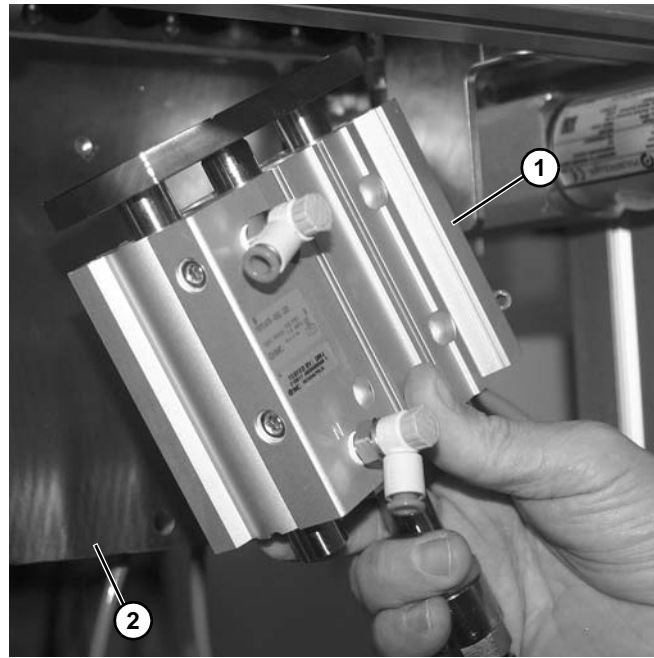

Figure 103
9. Remove cylinder (**Figure 103, item 1**) from mounting bracket (**Figure 103, item 2**).